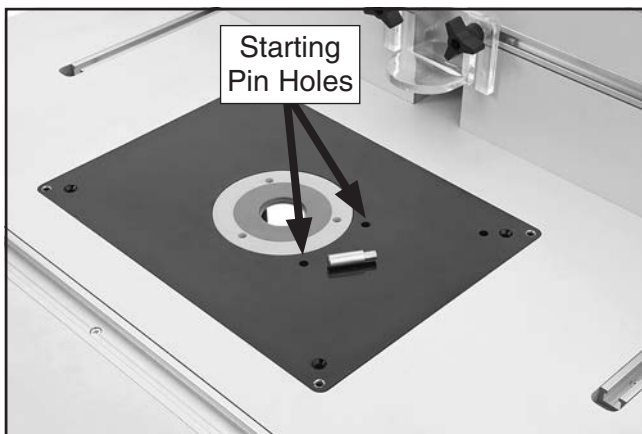

Figure 10. Proper location of the starting pin holes.
2. Insert the mounting board into the router table so that the starting pin holes are to the right of the opening, as shown in **Figure 10**.